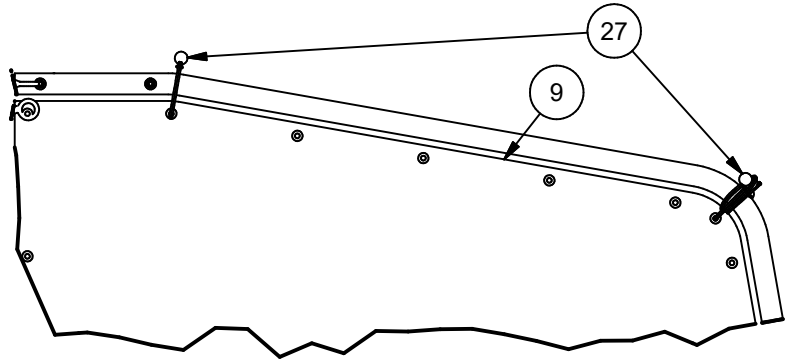

FIGURE E-5
10. Using two bungee balls per side cover, hang the side covers loosely in each upper corner of the backstays as shown in Figure E-5.